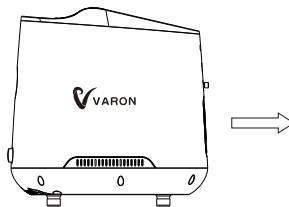

Figure 5
- Pull out the humidification bottle gently along the direction shown in the figure, pull out the rubber plug at the top and add cold purified water of exceeding the maximum water level. (Figure 5)